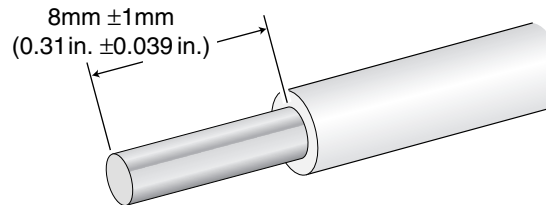

Figure 53 Stripping the Wires
3. With a 14-gauge wire-stripping tool, strip the three wires in the tray cable coming from the DC input power source to $8\text{mm} \pm 1\text{mm}$ ($0.31\text{ in.} \pm 0.039\text{ in.}$). See Figure 53.